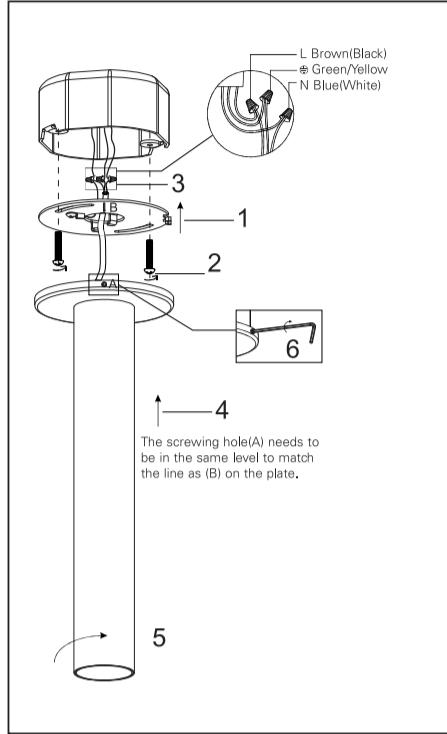

Figure 1.
3. Follow the steps as down below for installation or replacement of bulb. (Figure 1)